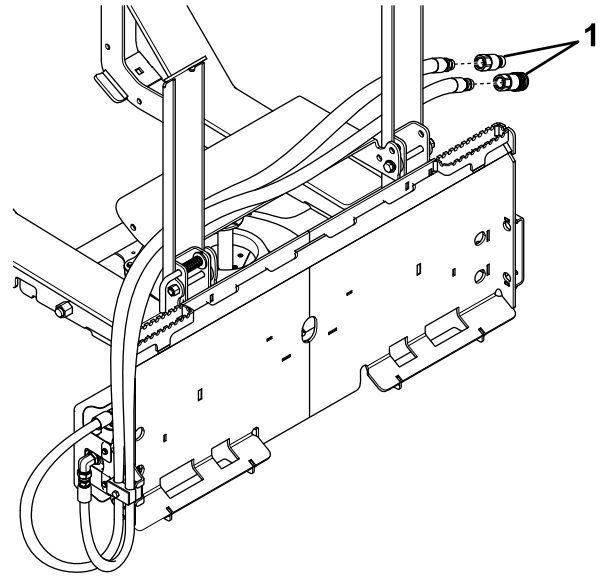

Figure 8
7. Secure the male quick-disconnect fitting to the free end of the long hose (Figure 8).
8. Secure the female quick-disconnect fitting to the free end of the short hose (Figure 8).